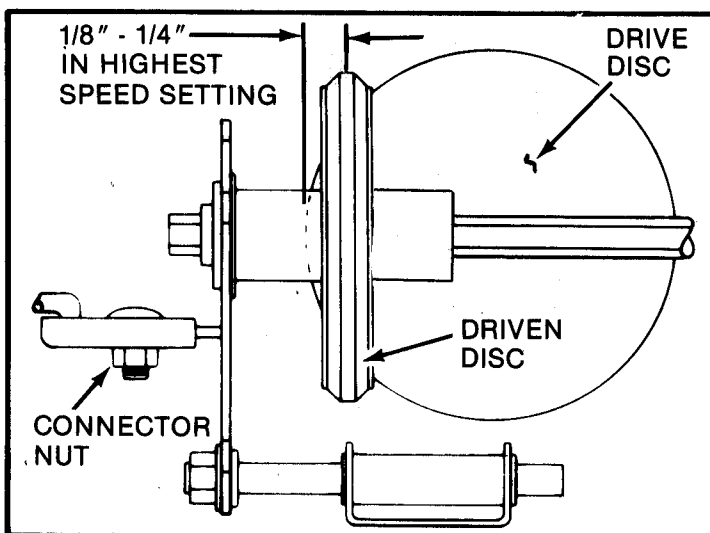

FIG 9 - DRIVEN DISC COMPONENTS
**DRIVEN DISC ADJUSTMENT:** With the engine stopped and the speed lever shifted into highest speed setting, the driven disc should be 1/8" to 1/4" from the center of the drive disc as illustrated in Figure 9. Readjust with engine stopped as follows: Shift the speed selector into the highest speed setting, loosen the connector hex nut and slide the driven disc assembly inward or outward until the center is 1/8" to 1/4" from the edge of the drive disc. Retighten connector nut to lock at new setting.